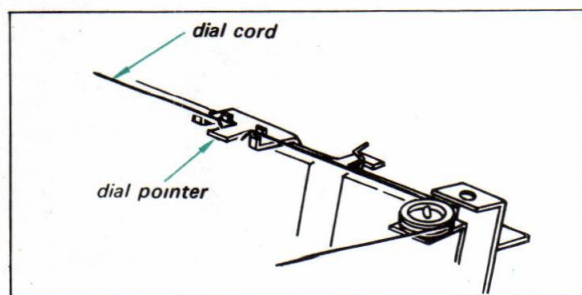
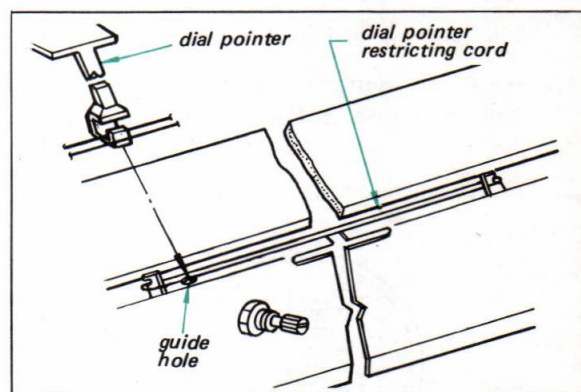

Fig. 2-14. Dial pointer installation
Fig. 2-15. Mechanical dial calibration
1. Put the dial pointer on the cord as shown in Fig. 2-14, and move it to a position where the pointer coincides with the guide hole provided in the front subchassis as shown in Fig. 2-15, when the tuning capacitor is set to the maximum capacitance position.
2. Hook the dial pointer on the dial pointer restricting cord as shown in Fig. 2-15.